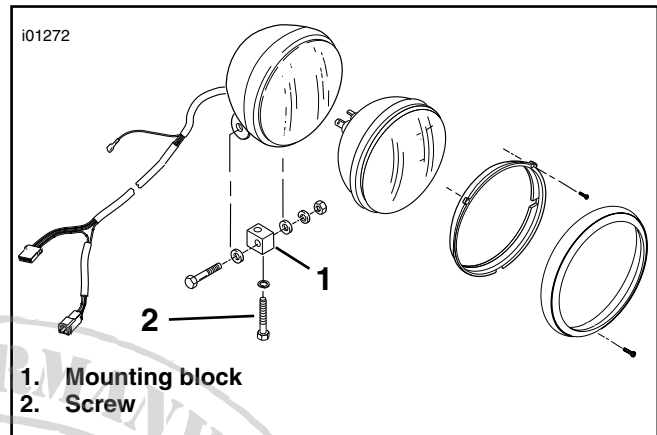

Figure 1. Headlamp assembly (FXSTC shown)
1. See Service Parts illustration. Install the edge gasket (4) to the headlamp visor (1). The gasket should be installed at the headlamp opening as indicated in illustration. When installing gasket, start at the top of the headlamp opening and work the gasket into place, finishing with the seam top.
2. See Figure 1. Remove headlamp assembly from motorcycle according to Service Manual instructions. Save all hardware for reinstallation, except mounting block (1) and screw (2) as shown. These may be stored for use without the Headlamp Visor in place.
3. See Figure 1. (For 2005 and earlier models) Replace existing mounting block with mounting block from kit (2) and secure with screw (7) as shown. The mounting block should be positioned with the through hole positioned forward and to the front as shown. Leave loose until Step 4 is completed.
4. Position visor bracket (3) on back of headlamp. Secure headlamp to mounting block (2) using existing bolt, washers and nut removed in Step 2. Align headlamp using procedure in appropriate Service Manual.
5. See Service Parts Illustration. Attach the headlamp visor (1) to the bracket with the 5 screws (5) and 5 washers (6) as shown and tighten to 40 in-lbs (4.5 N-m).